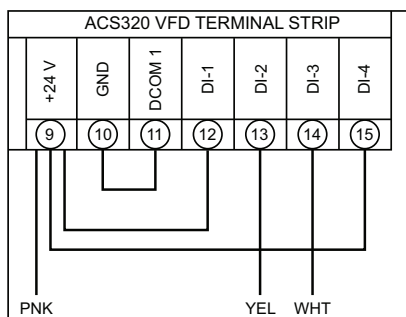

Fig. 29 — ACS320 VFD Wiring
- For ACS320 VFDs the voltage is sourced from the VFD at its terminal 9 (+24 V). SAV speed inputs are received at terminals 13 (DI-2) for low speed (40 Hz) motor operation and 14 (DI-3) for high speed (60 Hz) motor operation. See Table 12 and Fig. 29 (on page 21).